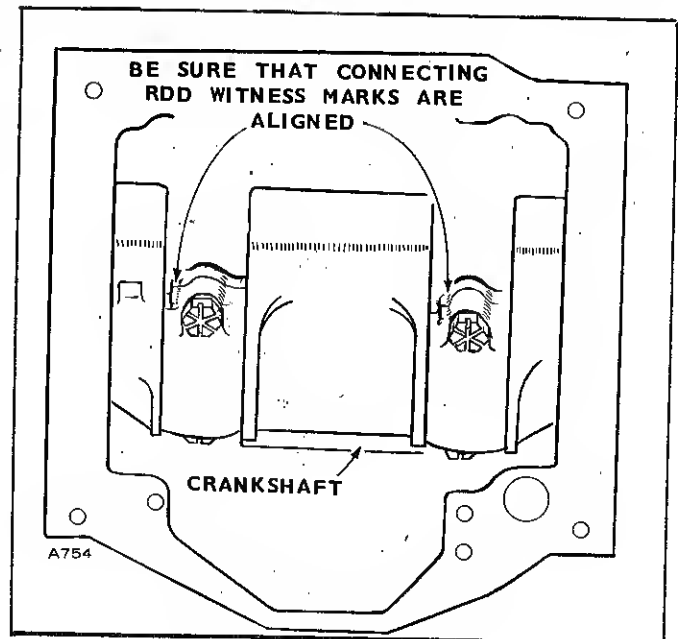

FIGURE 65. INSTALLING RDD CAP
5. Position each connecting rod on the crankshaft, oil the journal and install its rod cap with bearing half. When installing the rod cap, position so the raised witness mark on the forging matches the mark on the connecting rod (Fig. 65).